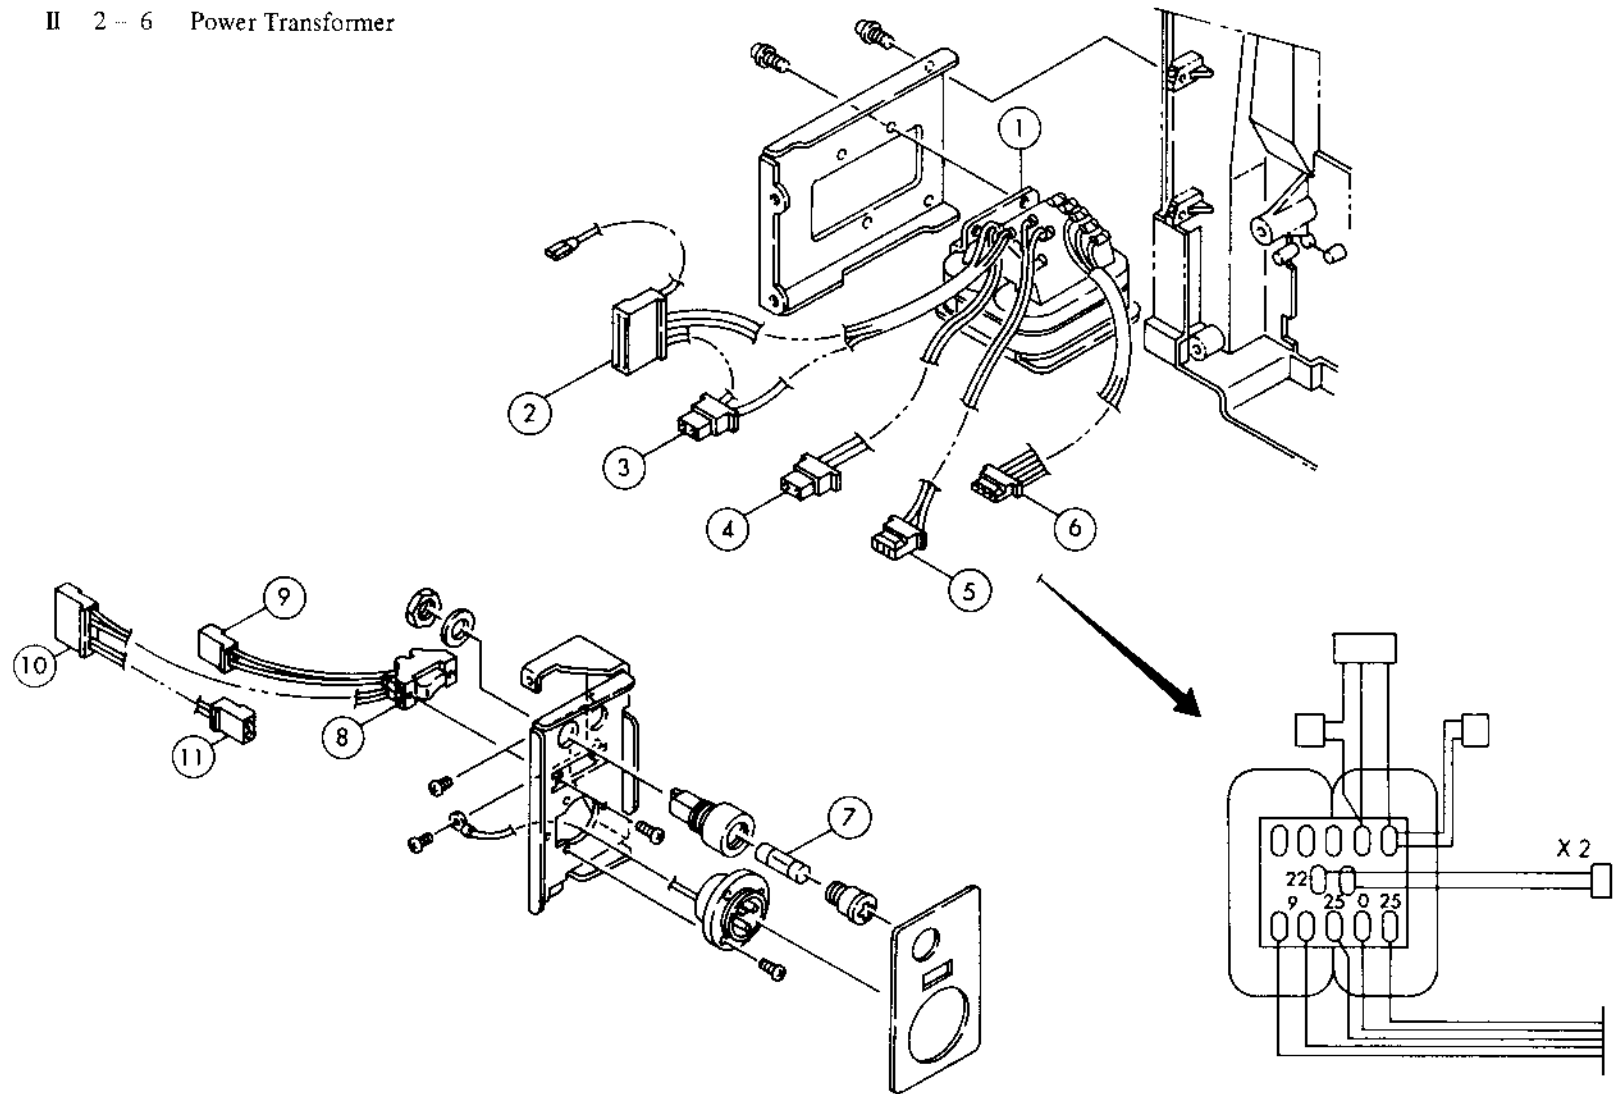

Fig. 32
1. Refer to Fig. 32 for carrying out disassembly.